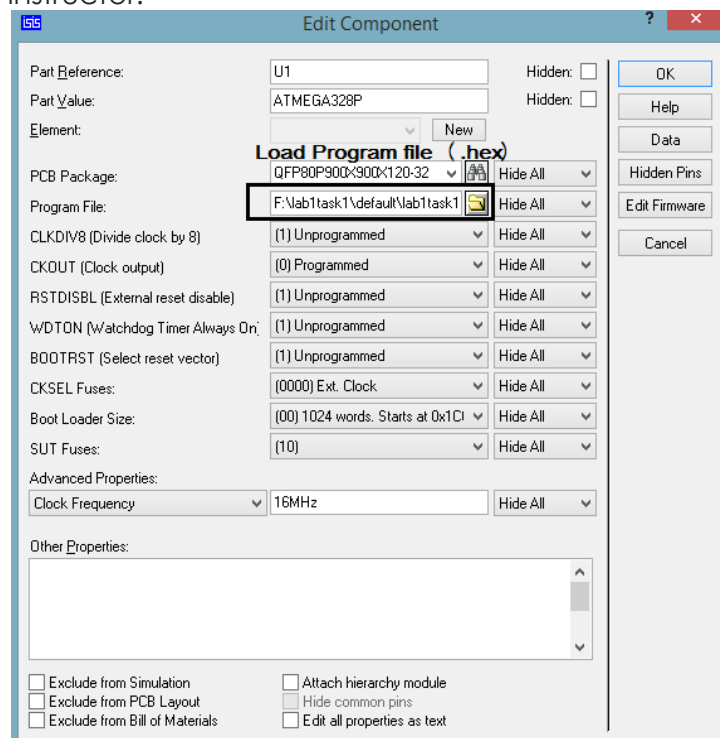

Figure 1.13 – Edit component menu
5. You also need to load your required program into the microcontroller memory as shown in figure 1.13. Program is loaded into microcontroller memory through hex file. Double click microcontroller edit menu will have prompt for load program. Select the hex file generated from Microchip Studio tutorial. This hex (Lab1.hex) file can be found in the Lab1 directory you created on desktop for the Microchip Studio tutorial.